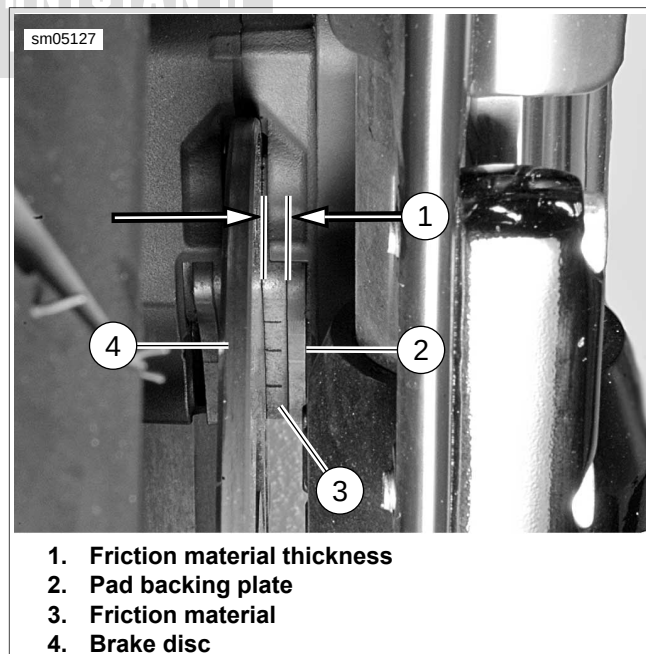

Figure 1-54. Brake Pad Inspection (front brake shown)
See Figure 1-54. The minimum brake disc (4) thickness is stamped on the side of the disc. Replace disc if worn past minimum thickness or badly scored.